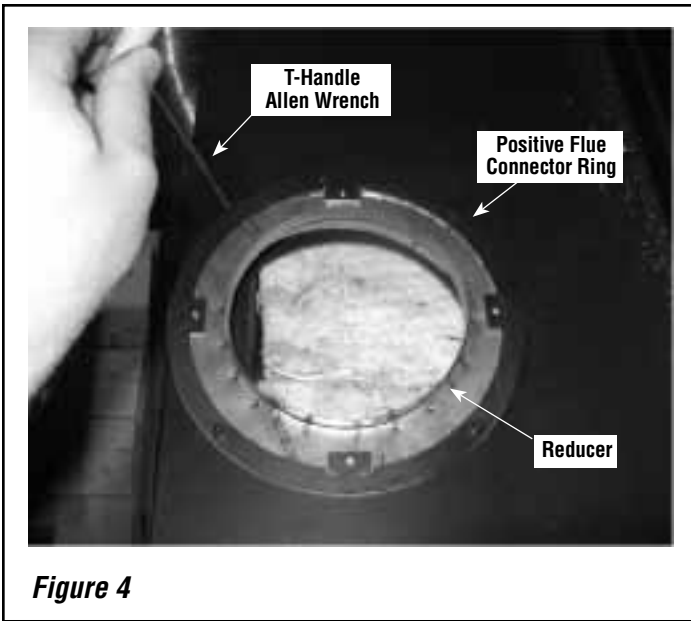

Figure 4
- Step 1.** Set the gasket on the top of the insert lined up with the existing holes as shown in *Figure 3*. Place the 8" to 6" reducer in the flue opening. Next, set your flange on top of the reducer and tighten the four 10-24 x 1/2" self-tapping allen head screws into the drilled holes as shown in *Figure 4*.